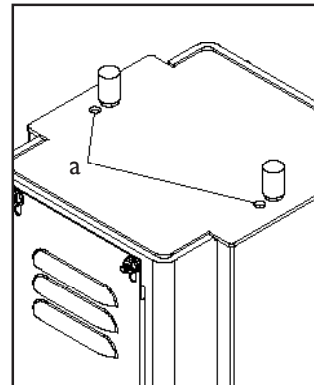

Figure 8: Top shaft alignment
5. Note: It is extremely important to keep the top shaft parallel with the pump input shaft. Misalignment will greatly reduce belt life. To ensure that the top shaft is properly aligned, use the shaft alignment holes (a) located on the top cover (Figure 8). Using a depth gauge, ensure that the distance from the bearing to the top cover is equal for both bearings.